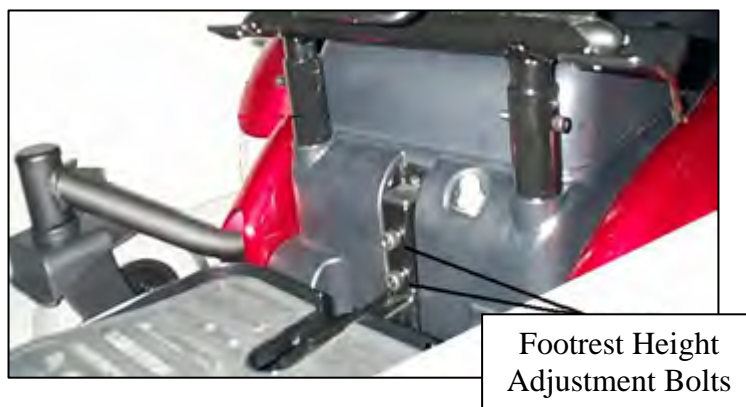

Figure 13
2. Use an Allen wrench to remove the bolts indicated in figure 13.